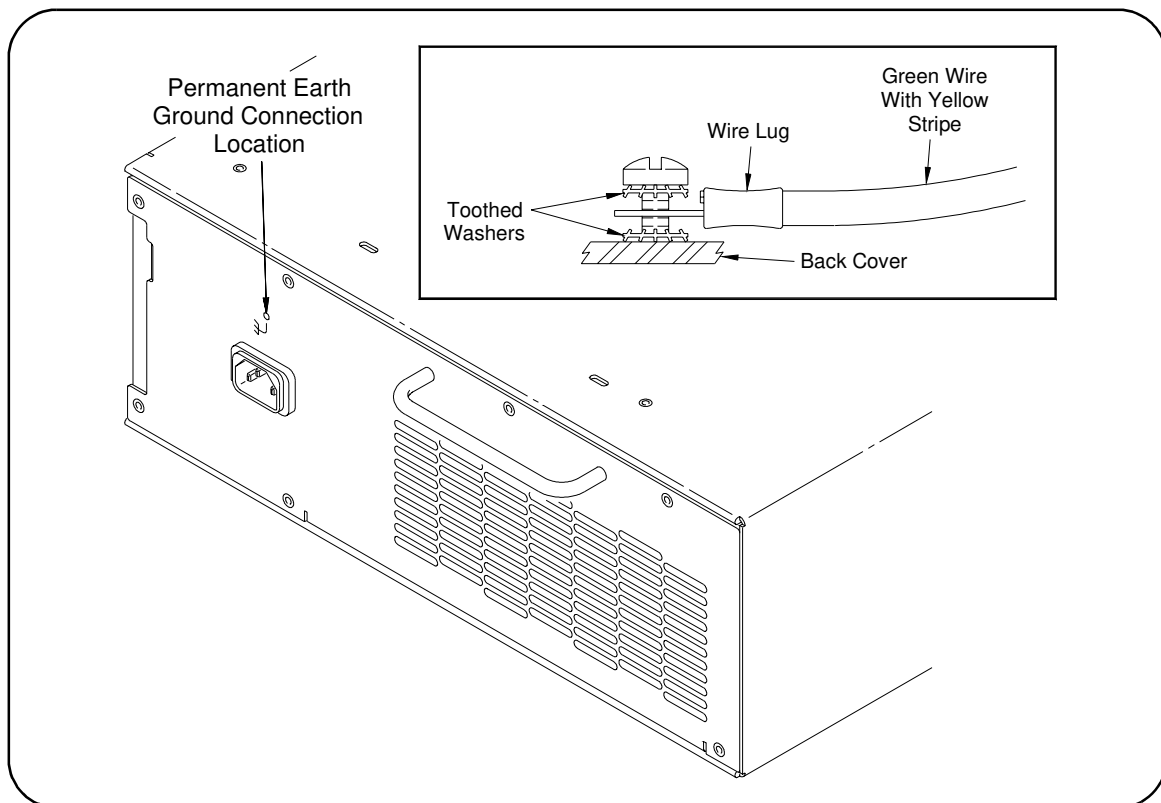

Figure 1-2. Connecting the E8408A Mainframe to a Permanent Earth Ground
The mainframe can be connected to a permanent earth ground. This connection is made on the back of the mainframe (see Figure 1-2).
- 1 Connect a 16 AWG (1.3 mm or larger) wire to the PEM nut shown in Figure 1-2. The wire must be green with a yellow stripe, or bare (no insulation). Use a M4 x 10 screw, grounding lug, and toothed washers (or toothed lug) as shown in Figure 1-2.